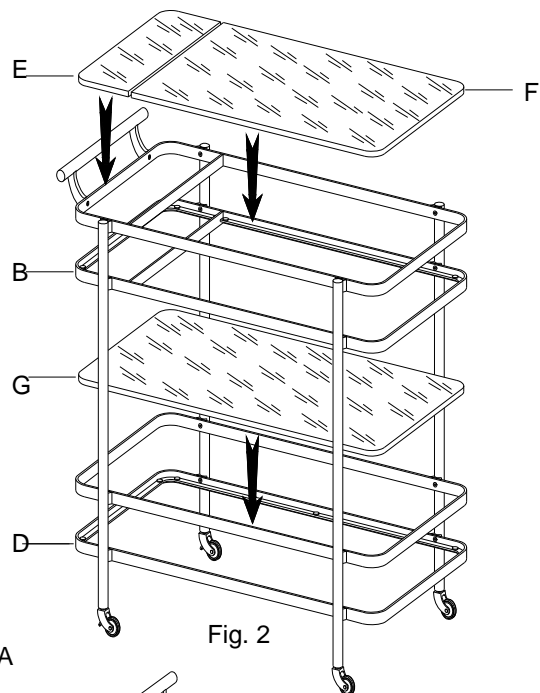

Fig. 2
Carefully insert glass shelves (E), (F) & (G) into the corresponding frames as shown. (Fig. 2)